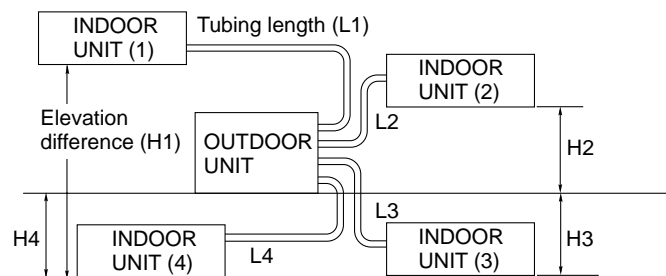

Fig. 3a
- install the unit within the maximum elevation difference (H1, H2, H3, H4) above or below the outdoor unit and within a total tubing length (L1+L2, L1+L2+L3, L1+L2+L3+L4) from the outdoor unit as detailed in Table 1 and Fig. 3a.